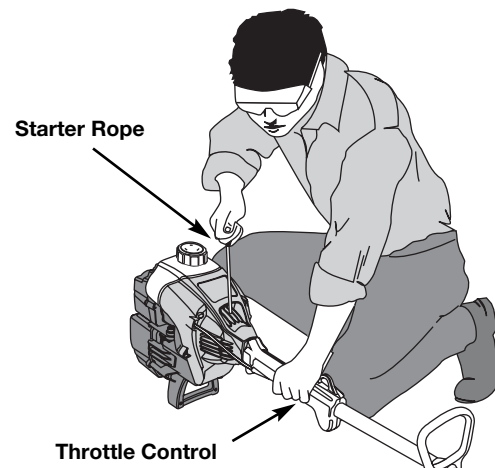

Fig. 8
WARNING: Avoid accidental starting. Make sure you are in the starting position when pulling the starter rope (Fig. 8). To avoid serious injury, the operator and unit must be in a stable position while starting.
6. Crouch in the starting position (Fig. 8), squeeze the throttle control, and pull the starter rope briskly 5 times.